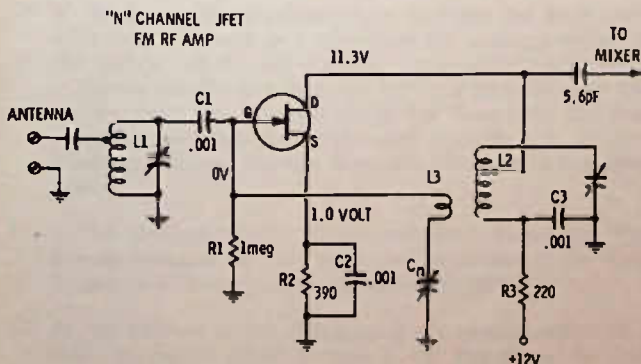

Fig. 16-18. Circuit for Questions 5, 6, and 7.
5. Fig. 16-18 is a JFET rf amplifier for an fm stereo radio. Judging by the voltages given on the circuit, the transistor has a drain-source current of around